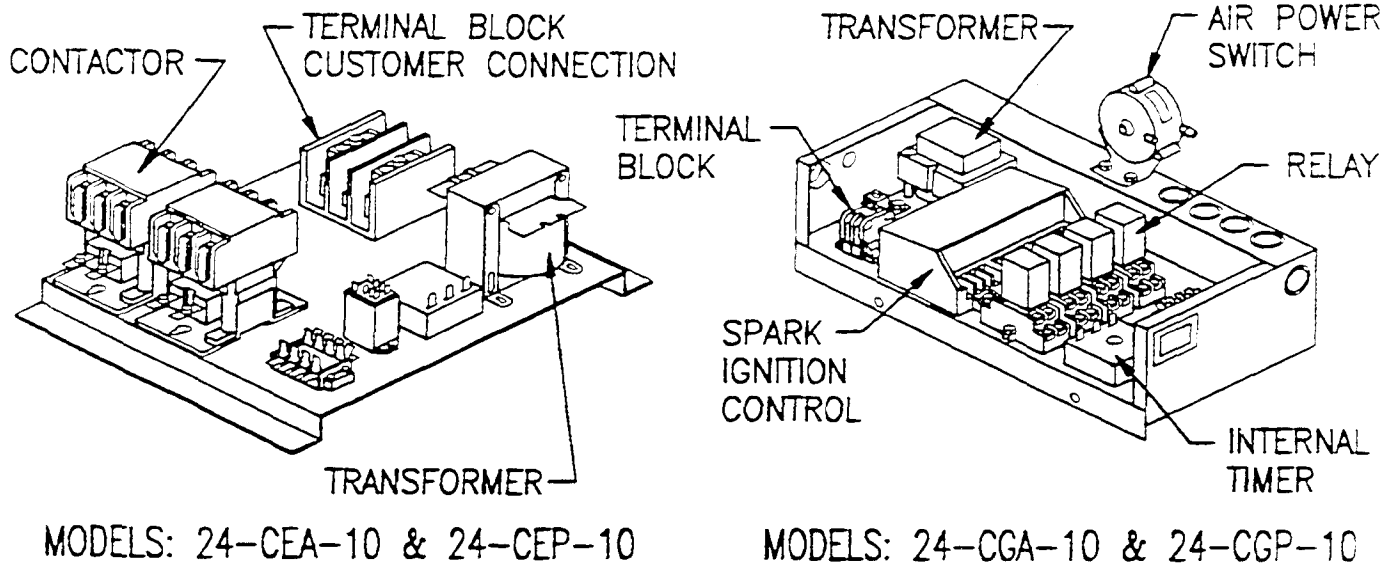

Figure 2-9. Electrical Connections
3. Refer to the connection diagram in Figure 2-9, and connect the wires to the terminal block and ground connector accordingly.